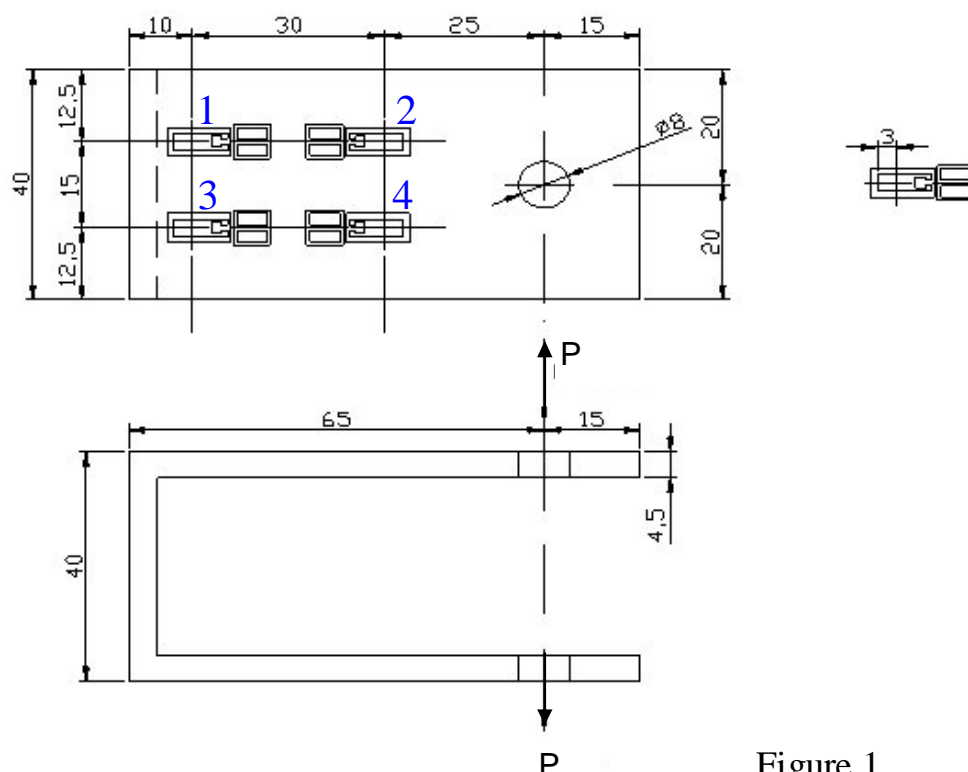
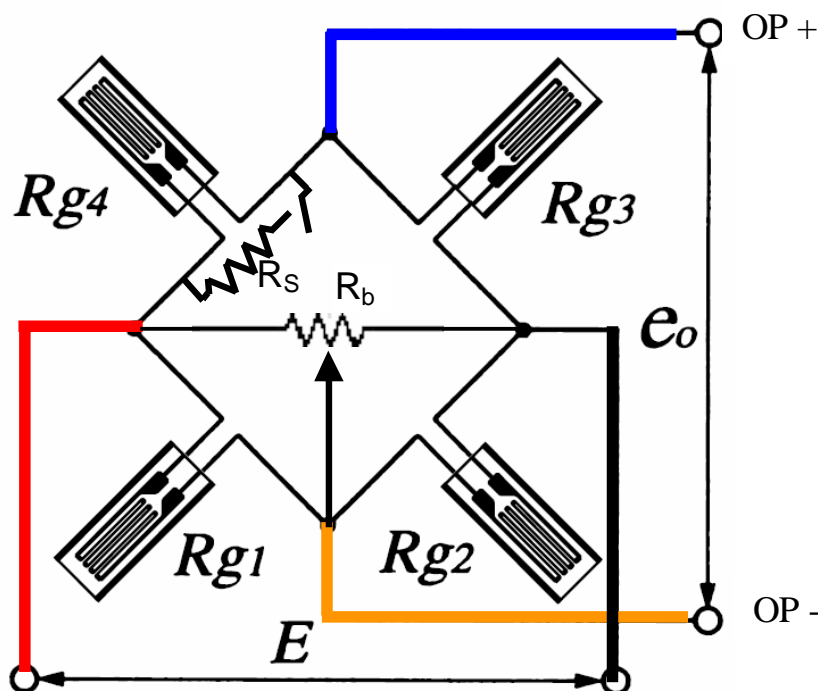
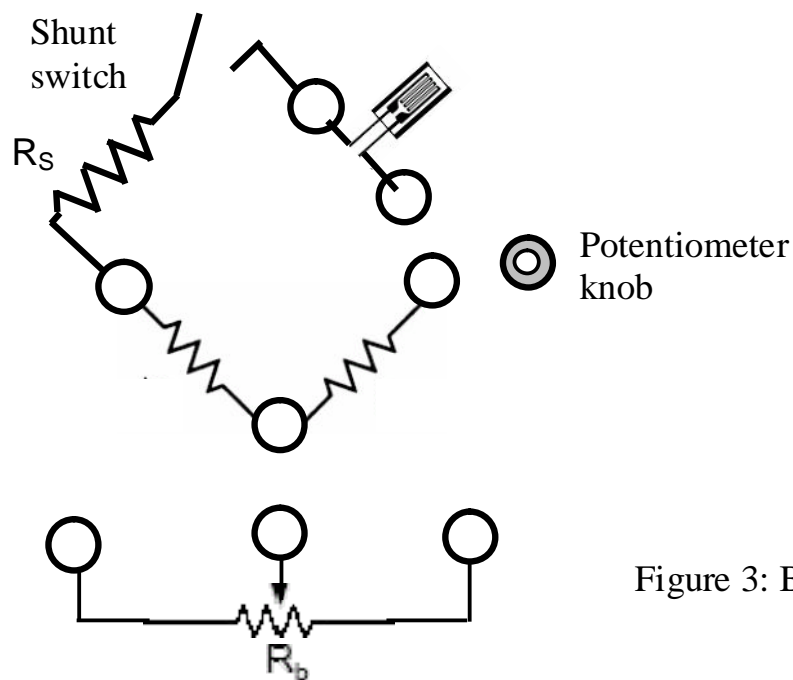
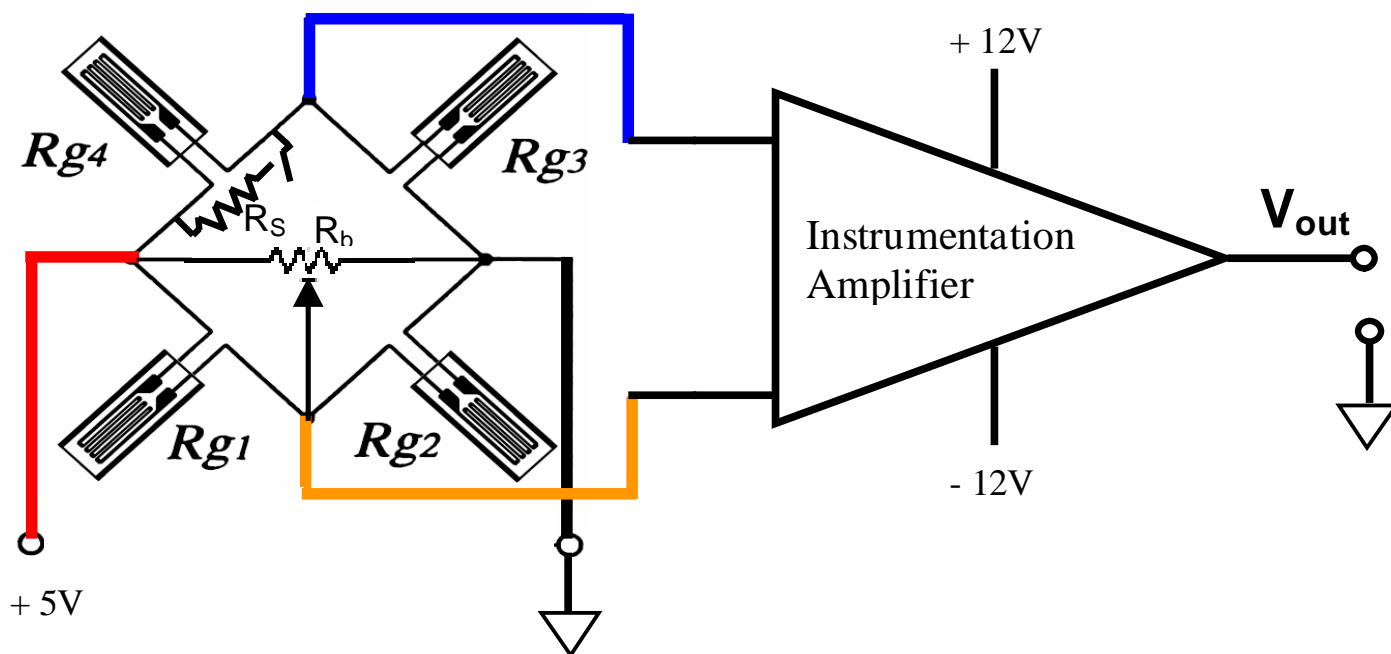

Figure 1
Figure. 2
Figure 3: Bridge completion box layout.
Figure 4: Circuit for load cell signal read out.
- In this experiment, we use the spring element as shown in figure 1. The strain gages are laid out as shown (numbers indicate their position in the bridge circuit in figure 2):
- Can you suggest at least one other layout for strain gage that can allow the applied load P to be measured. Compare the advantages and disadvantages between your layouts and the layout shown in figure 1.
4. Use sand paper for cleaning and abrading positions for strain gage installation (see fig.1).
1. Build up the Wheatstone **full** bridge as shown in figure 2. Use the bridge connection box if necessary. Use systematic color code for the wires!
2. We used a full bridge here but we still need the R_b and R_s are provided in a bridge completion box. Layout of the box is shown in figure 3. Use these to build up the Wheatstone bridge as shown in figure 1 and connect the bridge outputs to your instrumentation amplifier (IA) inputs as in fig.4 . Use Channel 3 of the power supply for bridge excitation. Remember to connect the ground of Channel 3 to the ground of the IA *Why should we need R_b and R_s ?*